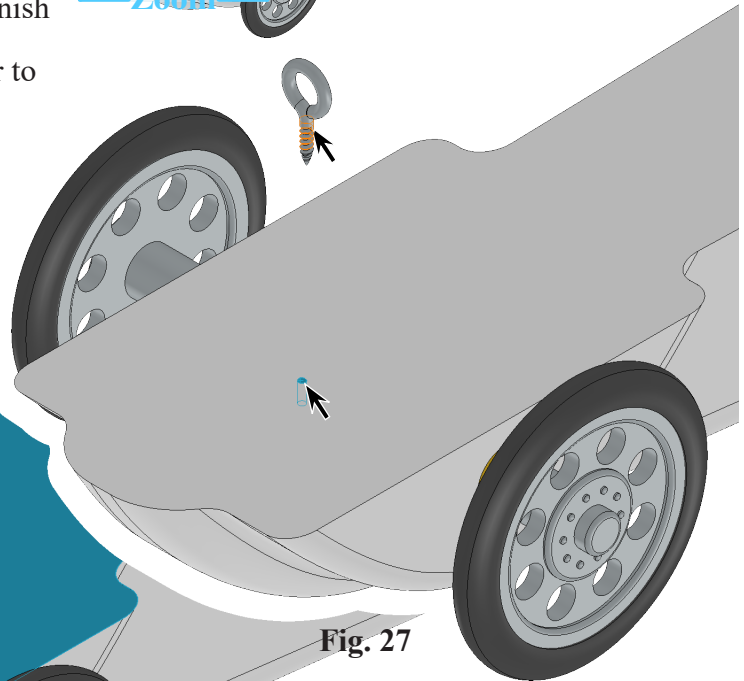

Fig. 27
Step 3. Click **cylindrical face of the hole in Body** and **cylindrical face of Eye Screw<1>**, Fig. 27.